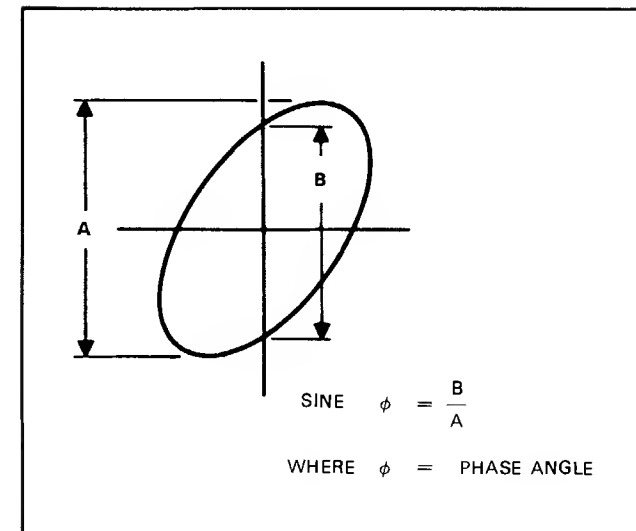
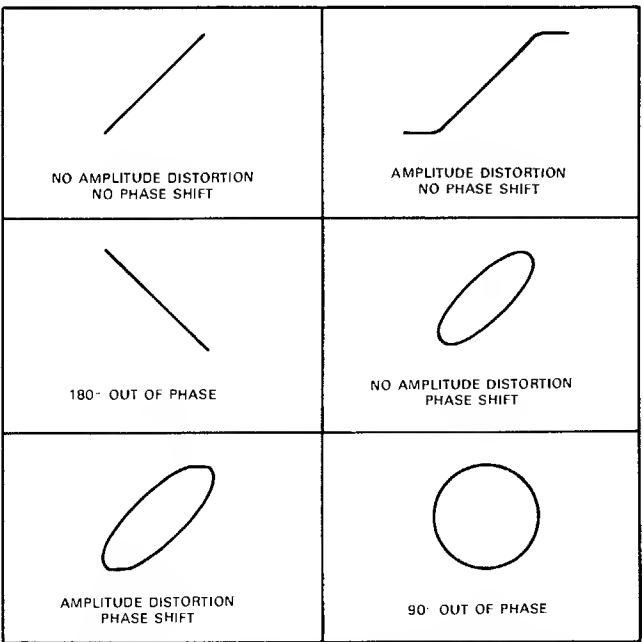

Fig. 21 Phase shift calculation
Fig. 20 Typical phase measurement oscilloscope displays
7. Some typical results are shown in Fig. 20. If the two signals are in phase, the oscilloscope trace is a straight line. If the vertical and horizontal gain are properly adjusted, this line is at 45°. A 90° phase shift produces a circular oscilloscope pattern. Phase shift of less (or more) than 90° produces an elliptical Lissajous' pattern. The amount of phase shift can be calculated by the method shown in Fig. 21.